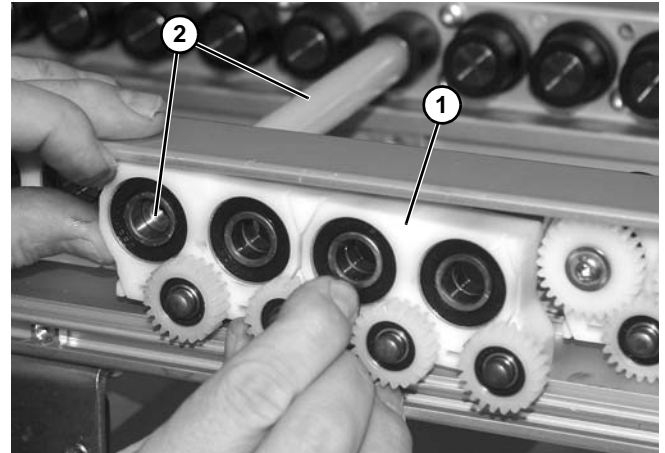

Figure 44
10. Remove the bearing housing assembly (Figure 44, item 1) from shaft assembly (Figure 44, item 2) and from the conveyor frame.